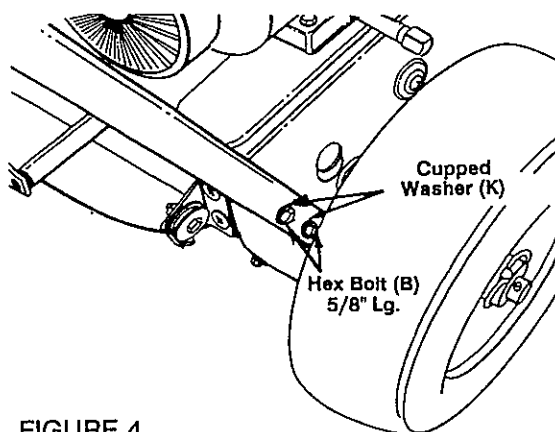

FIGURE 4
- Resting the lower handle on the floor behind the machine, line up the lower holes in the handle with the lower holes in the frame sides and secure with cupped washers (K) and hex bolts (B). See figure 4.
- Raise the lower handle up aligning upper holes in the handle with remaining hole in the frame. Secure to the frame with cupped washers (K) and hex bolts (B). See figure 4.